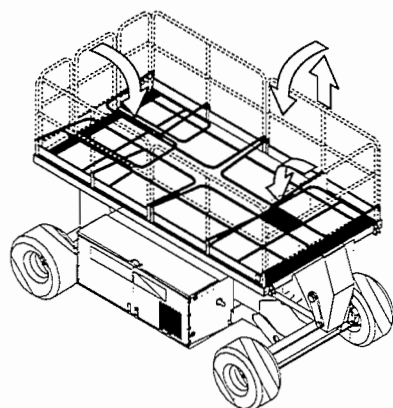

Figure 3-3: Fold Down Guardrails
3.6 Fold Down Guardrails (Figure 3-3)
Before entering Platform, guardrails must be securely fastened in their proper position. Figure 3-3: Fold Down Guardrails